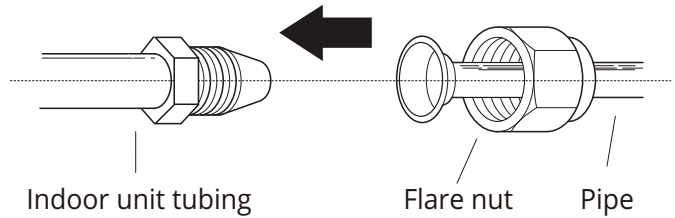

Fig 5.7
1. Align the center of the two pipes that you will connect. See Fig. 5.7.